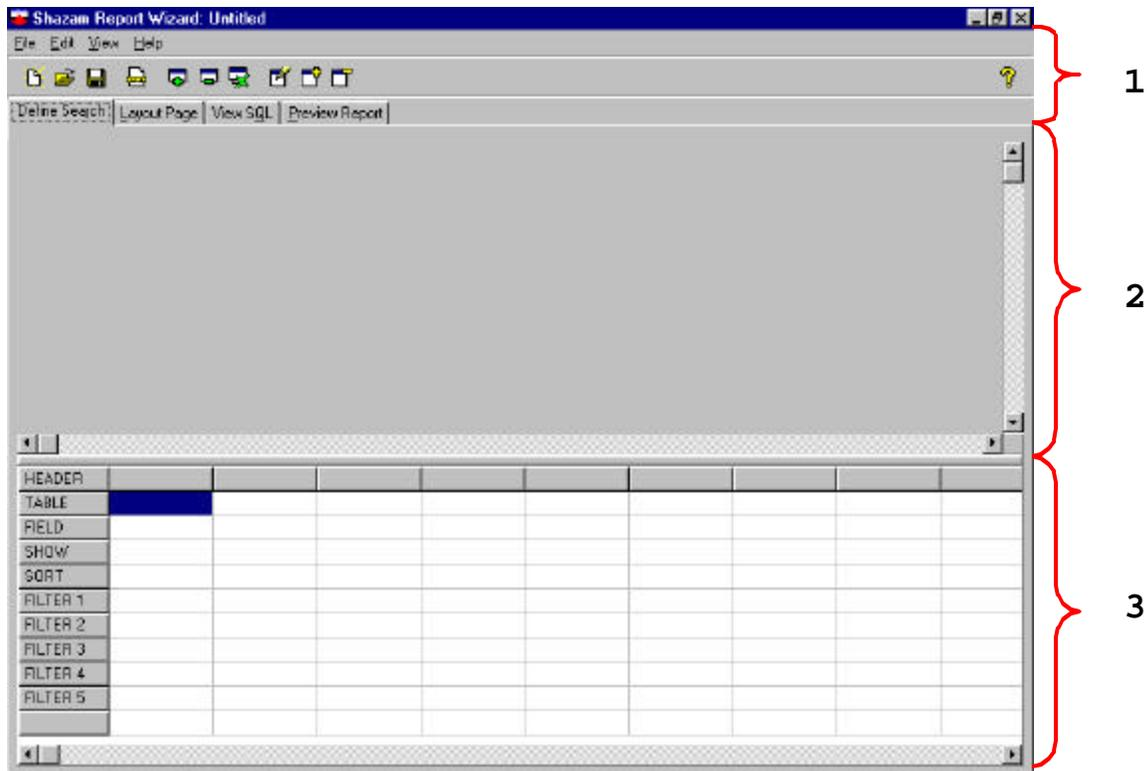

Figure 5.
a. **Define Search View.** When the wizard first starts, the view is broken down to 3 main sections: (see figure 5.)